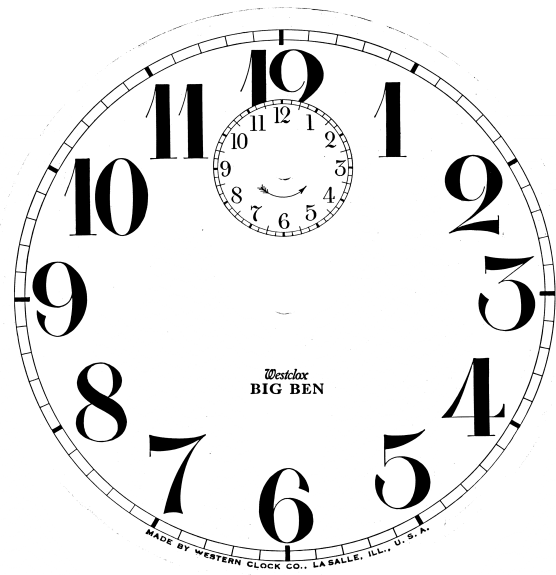
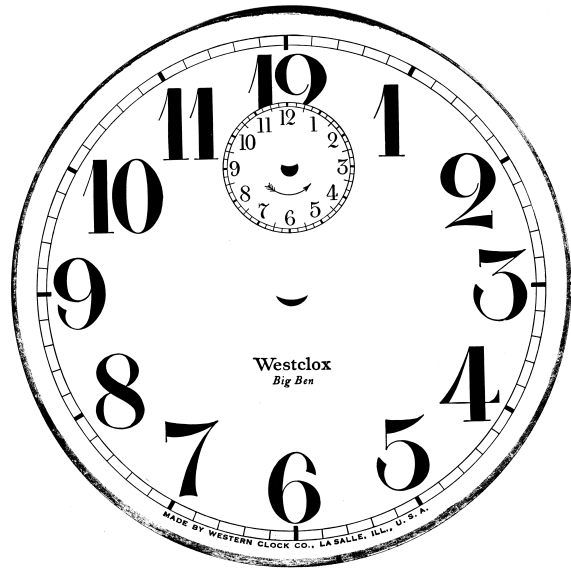
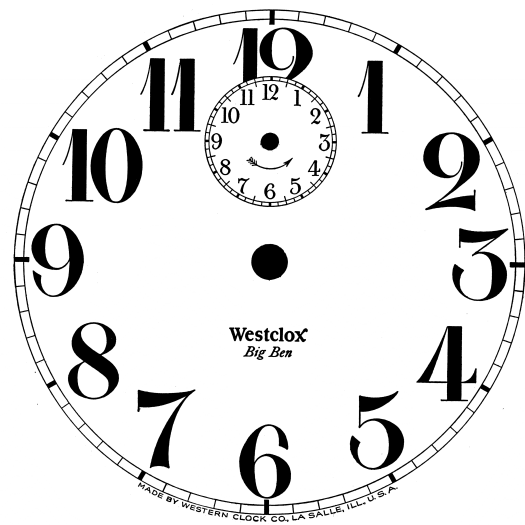

Figure 3 “Westclox” in Italics was used on the Big Ben and other Westclox clocks and watches from 1917 to 1922.
Figure 4 Starting in 1923, “Westclox” was put in Roman type face.
Figure 6 In 1928, the lettering of “Westclox” was changed to have the projection from the letter “x”.
In 1917, the name “Westclox” started appearing on the dial above the words “Big Ben”. From 1917 to ca. 1922, “Westclox” was in italics (see figure 3); from ca. 1923 – ca. 1927, “Westclox” appeared in Roman font with a flat-top “X” (figures 4 and 5), and starting ca. 1928 the “Westclox” had a loop-top “X” (figure 6).
- Style 1 has three screws through the bezel visible from the front, style 1a doesn't (compare figures 3 and 7);